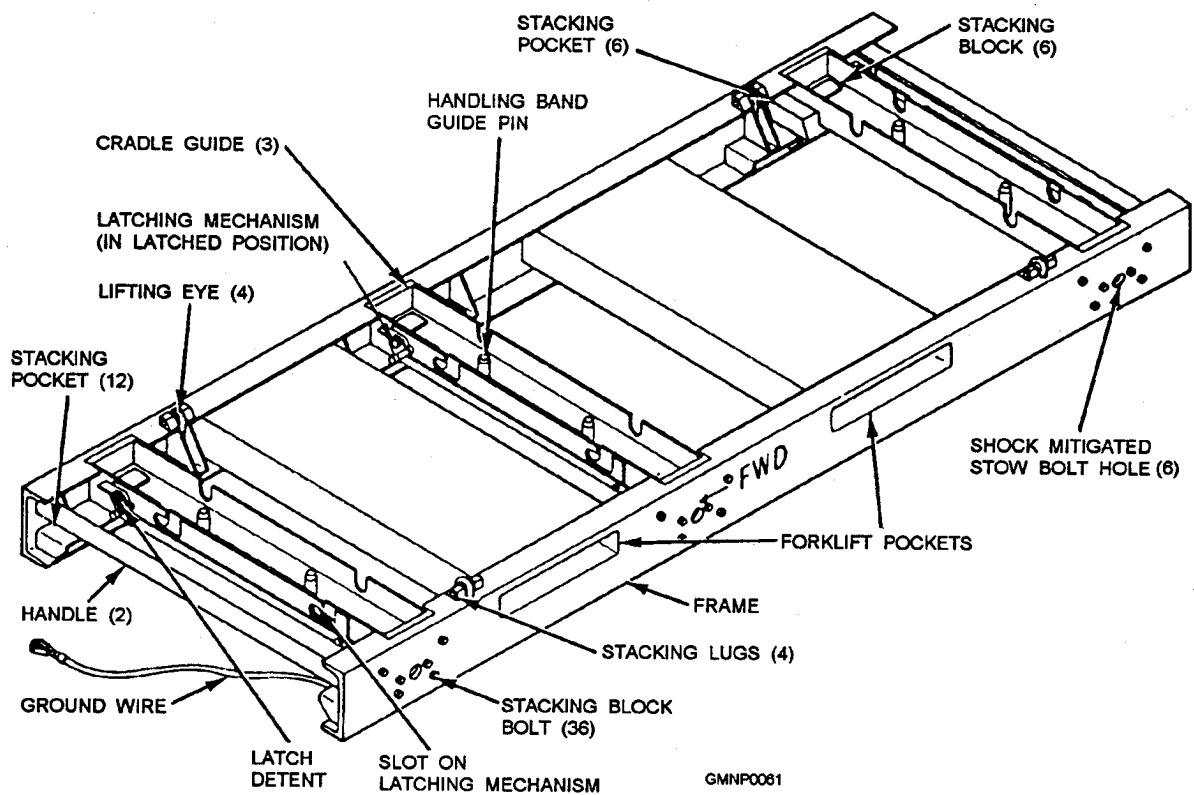

Figure 2-46.—Mk 20 stowage cradle.
**STOWAGE CRADLE.—** The Mk 20 stowage cradle is shown in figure 2-46. It is a welded aluminum frame with four lifting eyes and two forklift pockets. Three cradle guides accept and lock the Mk 79 handling bands in place. Stacking pockets are provided on the bottom of the side rails (frame) of the cradle.